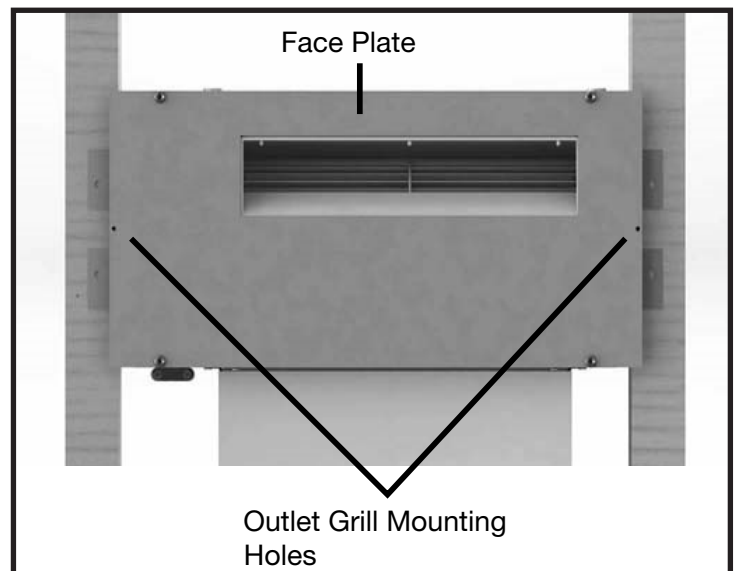

Figure 26: Grill mounting holes.
10. Re-install the Face Plate (Figure 26) and then attach the Outlet grill(s) over the outlet(s) Face Plate using the screws provided by aligning the screws for the outlet grill with the holes in the casing face plate.